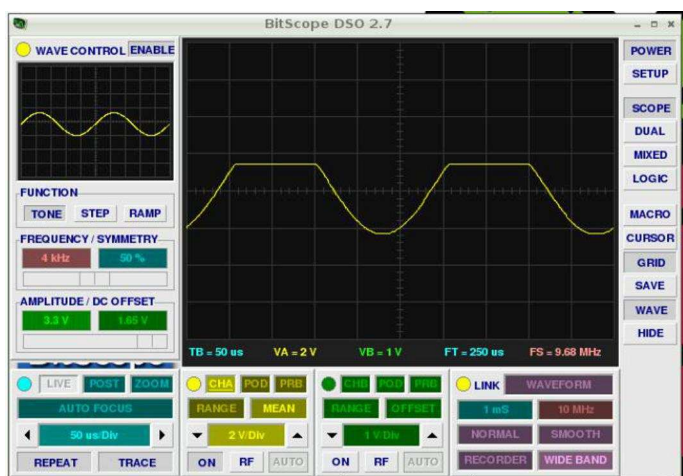

Fig. 9:
A few adjustments of the BitScope DSO software are still necessary. Please set the time base control (6) to 50 $\mu\text{s}/\text{Div}$ and the Channel Control Pad for Channel A (7) to 2V/Div. In addition, right click the OFFSET indicator of the Channel Control Pad A (7) and select MEAN on the context menu. The OFFSET indicator is located above the 2V/Div display on the right hand side (see Fig. 9). Now look at the result in the main display (1) and compare the waveform with the original in the preview area (10) of the WAVE CONTROL pad. There is definitely something wrong here. The upper curve of the sine wave is clipped!